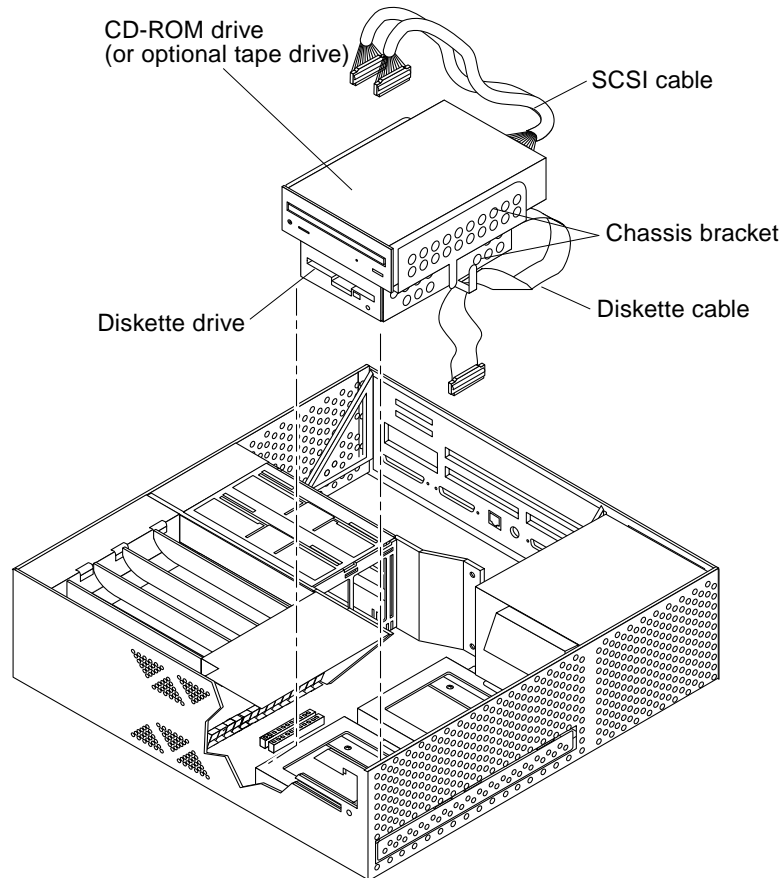

FIGURE 9-2 Removing and Replacing the Chassis Bracket
5. Remove the chassis bracket as follows (FIGURE 9-2)
- 1. Replace the chassis bracket as follows (FIGURE 9-2):**